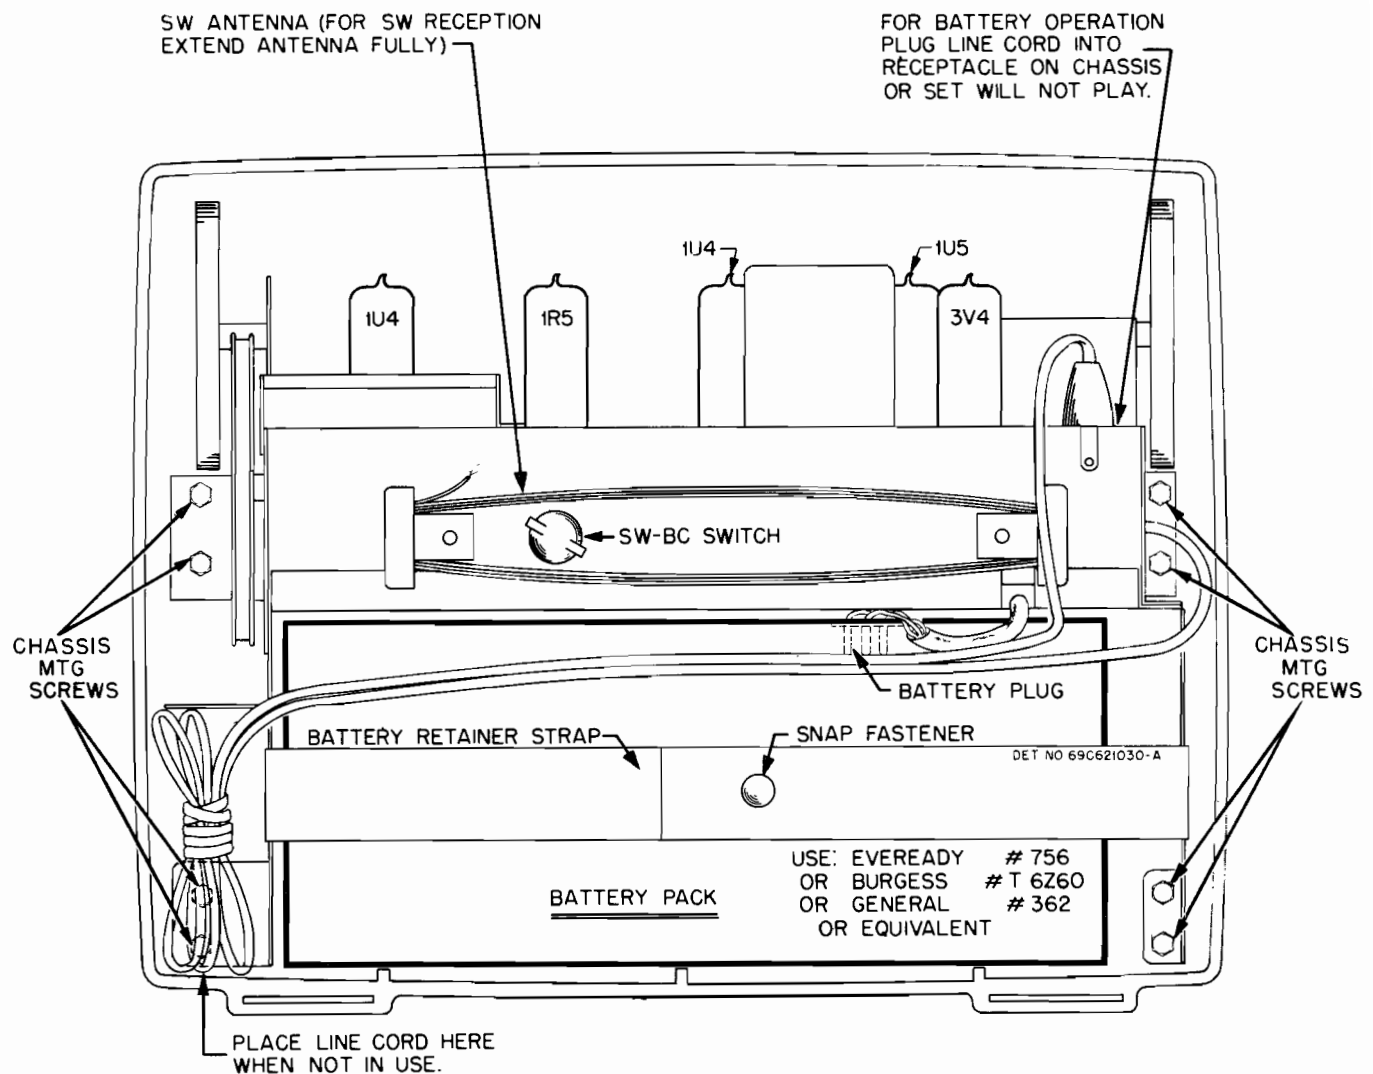

FIGURE 2. REAR VIEW OF RECEIVER
BATTERY OPERATION. Open the back cover and install the battery pack by following the instructions on the label located inside the cover, or refer to Figure 2. Plug the
BANDSWITCH. Standard broadcast or short-wave reception, as desired, is selected with the knob on the back of the chassis (see Figure 2). Rotate the knob to the right for short-wave or to the left for standard broadcast.
**BATTERY REPLACEMENT.** Replace the battery pack when low volume or fuzzy tone is noticed. Complete battery replacement instructions will be found inside the back cover, or refer to Figure 2.
For short-wave reception, open the back cover, unwind the antenna lead on the rear of the chassis, and extend the lead fully. See Figure 2.
Refer to Figure 2 for the locations of items mentioned below: